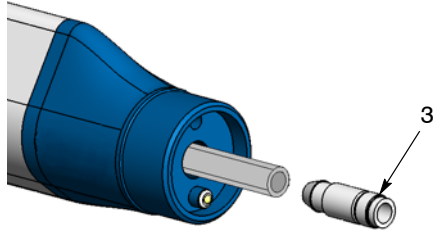

Figure 19 Removing Barbed Tube Fitting
3. See Figure 19. Pull the barbed tube fitting (3) out of the gun and disconnect the flexible powder tubing from the tube fitting.
9. Install the lock knob (20) over the end of the flexible powder tubing. Insert the end of the flexible powder tubing into the mesh sleeving, and pull the powder tubing through the gun to the front.
10. See Figure 19. Install the barbed tube fitting (3) into the end of the flexible tubing, then pull the tubing back until the fitting seats into the gun.